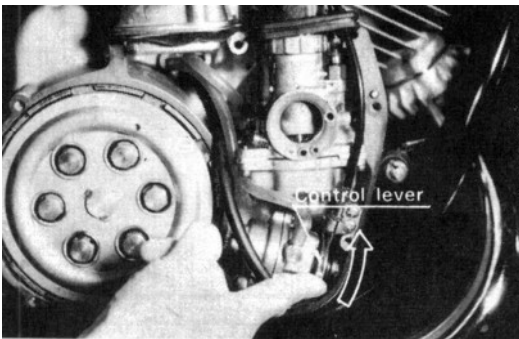

Fig. 91 Exhausting air bubbles
3. To exhaust air bubbles between the oil tank and the oil tube, disconnect the tube from the oil pump and let oil flow freely. Then connect the tube to the pump and hold the control lever wide open while running the engine at idle for about one minute. (Fig. 91)